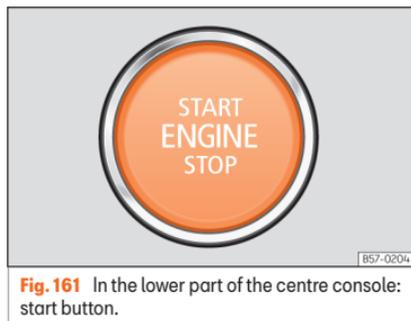

Fig. 161 In the lower part of the centre console: start button.
- Press the starter button  **Fig. 161**; do not press the accelerator. There needs to be a valid key inside the vehicle for the engine to start. After starting the engine, the lighting of the **STARTENGINESTOP** button remains fixed indicating that the engine is running.
- Briefly press the start-up button »» **Fig. 161**.